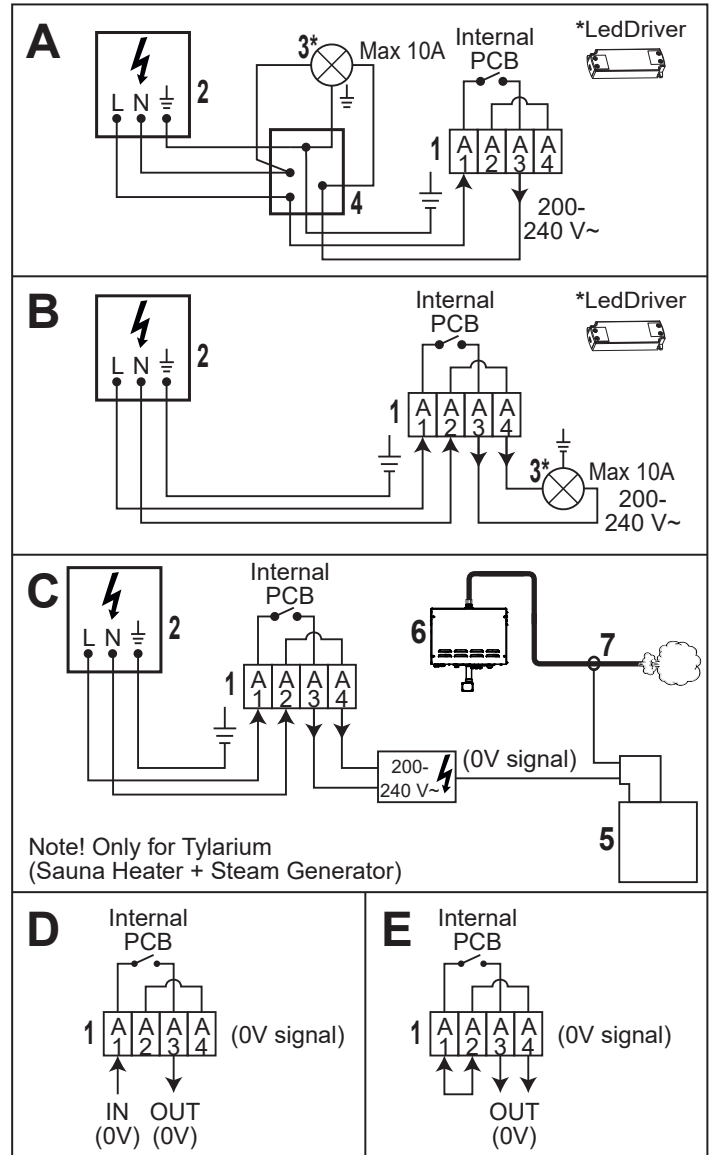

Figure 3: Alternative Connections
2. On/off - Use with extra lights, see fig. 3 alt, A and B
3. Fragrance - Use with Tylö fragrance pump in Tylarium, see fig 3 alt. C.